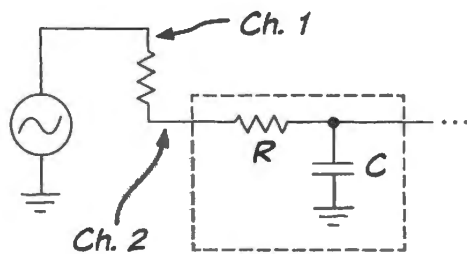

Figure 2L.3 Test setup to use R_{IN} to reveal R .
- How will you know that it is the effect of R that you are observing, rather than some combination of R and X_C ? (*Hint*: do you see a phase shift between the waveforms on Channels 1 and 2?) *Note*: keep f_{IN} under about 1MHz, so as not to complicate your search with the effect of the BNC cable's capacitance to ground. That capacitance – about 30pF/foot – becomes important at high frequencies; it forms a low-pass with R_{Thevenin} at the point marked “Ch. 2” in Fig. 2L.3. So, as you push the frequency high, looking for the disappearance of phase shift, you will be frustrated if you go too far!